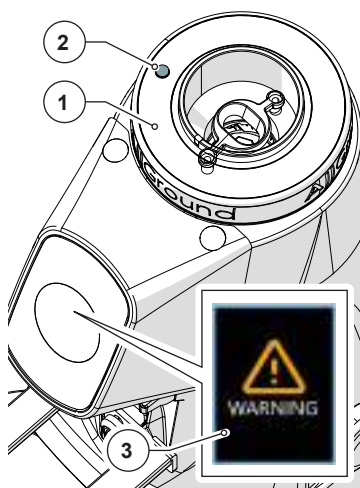

Fig. 5
- **Locking/unlocking ring nut pin (Fig. 5)**
This microswitch (Item 1), which can only be activated by the special pin located on the removable chamber (Item 2), only allows the appliance to start if the removable chamber itself (Item 3) has been inserted in the correct working position in the machine body (Item 4) and locked in place by the adjustment ring nut (see Fig. 5 Item 1).